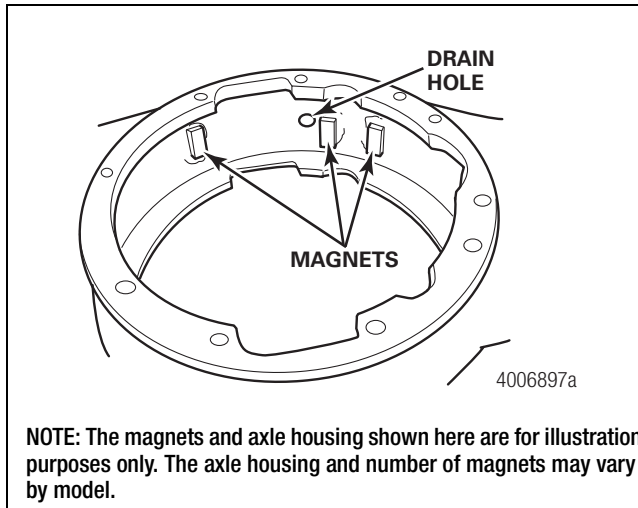

Figure 5.1
4. Install the magnets into the bottom of the axle housing to the axle housing internal flat surface. Figure 5.1. Position three magnets on either side of the drain hole as follows.